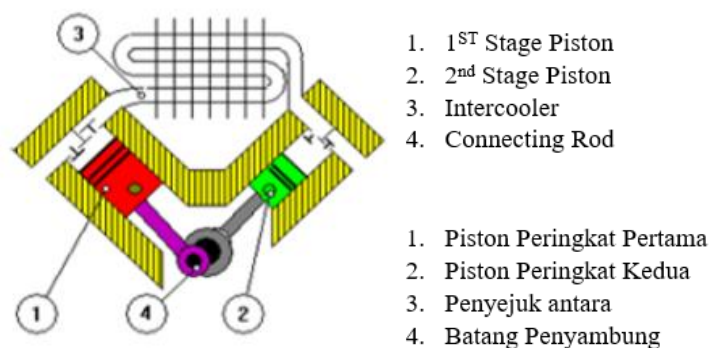

Figure A1(b) / Rajah A1(b)
- CLO1 (b) Elaborate the operation for the pneumatic component in Figure A1(b).